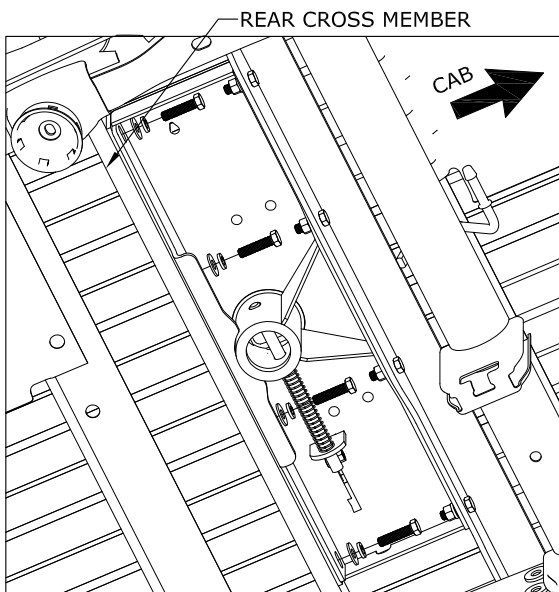

Figure B11: View under the center section looking from in front of the axle on the passenger side.
6. **Attach the rear cross member to the center.** Slide the rear cross member up against the center section. Line up the slots in the center with the threaded holes in the cross member. Attach the two members using $\frac{1}{2}$ x 2" long bolts, flat washers, and lock washers as shown in Figure B11. Hand tighten bolts.